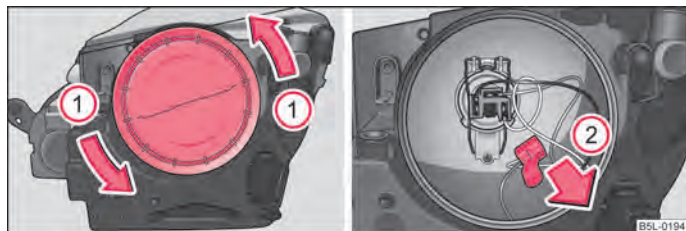

Fig. 182 Remove cap/removing the fixture for the parking light (halogen headlight)
- Turn the protective cap in direction of arrow ① **OPEN** and remove it ⇒ fig. 182.
- Pull out the fixture in direction of arrow ② ⇒ fig. 182.
- Turn the protective cap in direction of arrow **OPEN** ⇒ fig. 182 and remove it.
- Unplug plug (A).
- Press the wire clamps (B) down until they are released from the secured position.
- Remove the light bulb (C) and insert the new light bulb in such a way that the fixing lugs of the light bulb socket fit into the recesses at the reflector.